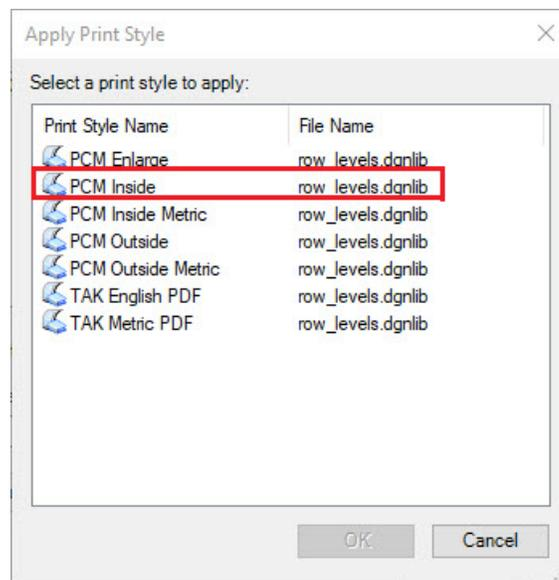

Figure 34 "Print Style"
Step 11. Double Click either PCM Inside or if you are doing an enlargement area select PCM Enlarge (Figure 34 below)